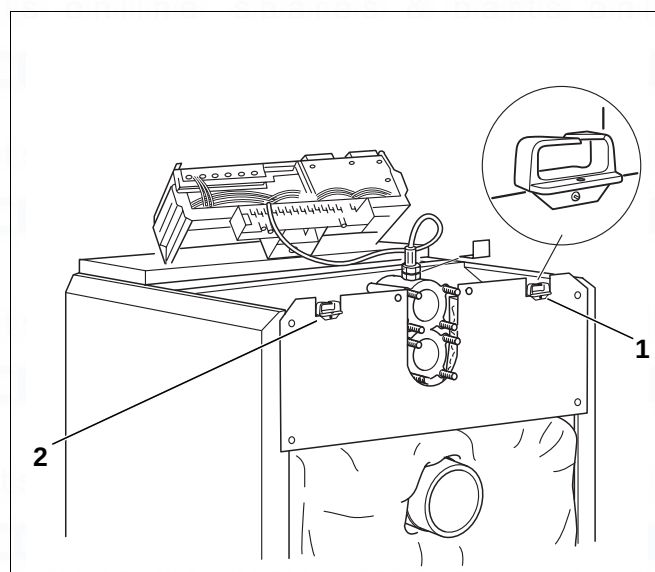

Fig. 46 Power supply
- Screw cable entry (Fig. 46, [1] and [2]) to the left and right of the boiler rear panel.